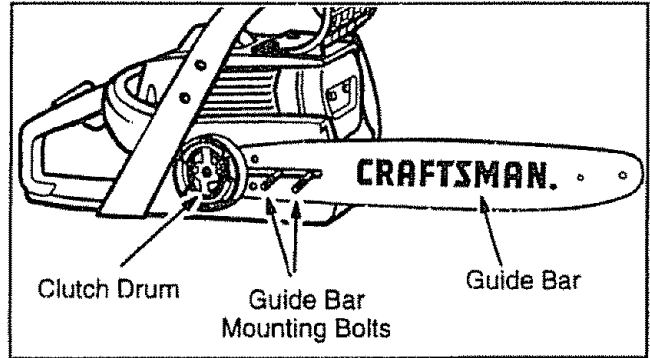

Figure 8
- Mount guide bar with slotted end over both guide bar mounting bolts. Slide guide bar behind clutch drum until guide bar stops against the clutch drum sprocket. Install the bar with "Craftsman" logo in up position (see Fig 8).